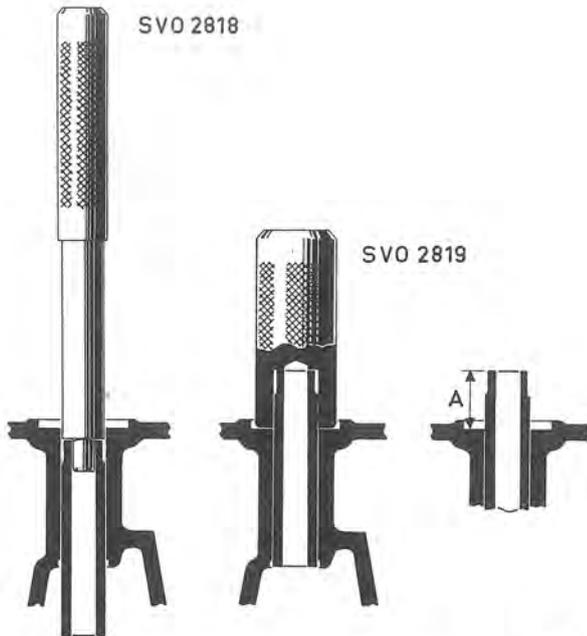

Fig. 2-21. Replacing valve guides
2. Press in the new guides using drift SVO 2819, which gives the correct pressing-in depth. See Fig. 2-21.